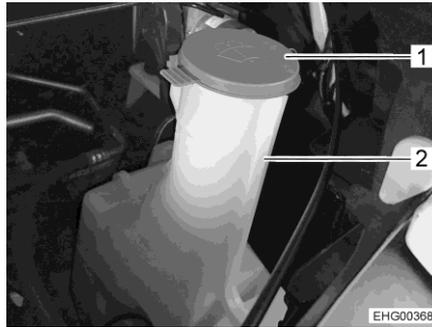

Fig. 37 Washer fluid container filler neck
- Remove the lid (Fig. 37,1) from the filler neck (Fig. 37,2) of the washer fluid container.